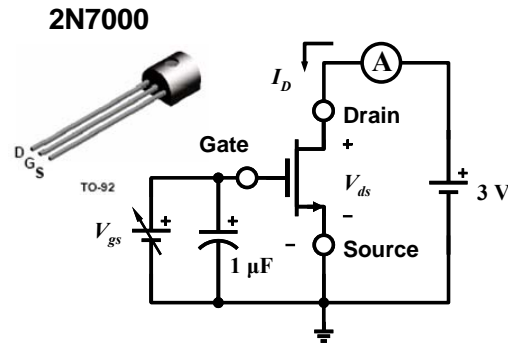

Figure 3-12 – N-channel enhancement MOSFET device and common-source circuit for  $I_d$ - $V_{gs}$  characterization.
- Find the 2N7000 device in your kit, and construct the simple biasing circuit shown in Figure 3-12. **Note the pin assignments have changed!** Here the gate voltage will be *positive* with respect to the source ( $V_{gs} > 0$ ). Note also the addition of a 1uF capacitor on the gate (needed for stability reasons).